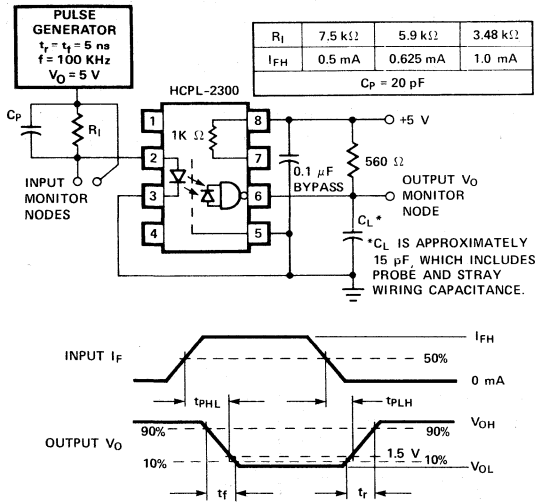

Figure 8. Test Circuit for  $t_{PHL}$ ,  $t_{PLH}$ , and  $t_f$ .
8.  $C_p$  is the peaking capacitance. Refer to test circuit in Figure 8.